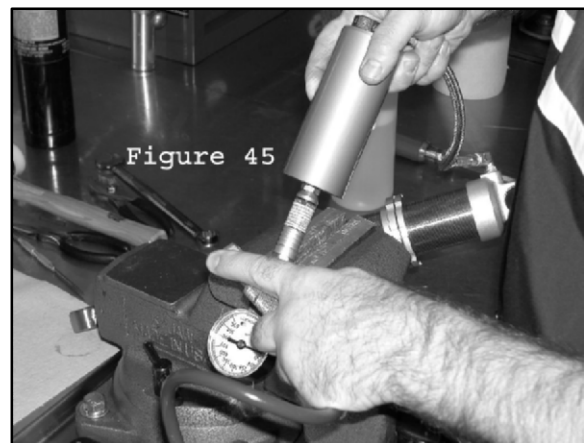

**Figure 42**
77. Hold the shaft eyelet with one hand. With other hand, slide the bearing assembly down the shaft until contact with oil is made. Find the bleed port in bearing assembly, and position it away from your face and body. With one hand, very slowly push the bearing assembly into body tube. Be sure to have a small container in your other hand to catch the excess oil as it flows out of the bleed port in the bearing. Do not allow the shaft to move as you push the bearing in until the bearing makes contact with the piston assembly. Then, push bearing and shaft assembly into body tube until it stops at the external o-ring of the bearing assembly. (Fig. 41) With one hand continue applying pressure to the bearing assembly. With other hand, set the compression adjustment knob to the #1 position. As you do this, the bearing and shaft assembly should push further into the body tube. Push the bearing and shaft assembly into the body tube until the retaining ring groove is exposed. (Fig. 42) Install the wire-retaining ring, and check to make sure retaining ring is properly seated.